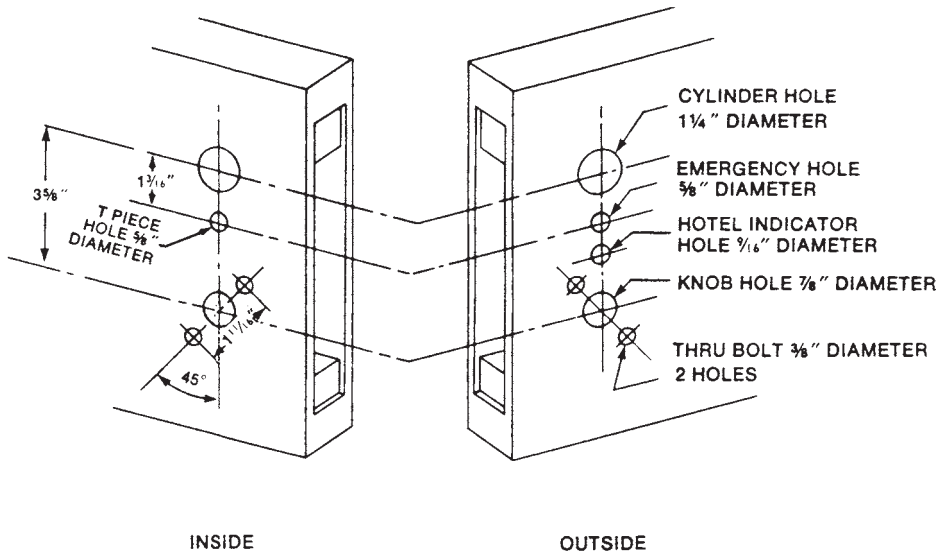

Figure 19.44 Electrified key-in-knob lock installation, Step 2.
2. Bore the 2 $\frac{1}{8}$ -inch hole at the point marked from both sides of the door. Bore the 1-inch latch unit hole straight into the edge of the door from the center point of the height line. Mortise the latch front and install the latch unit (Fig. 19.44).